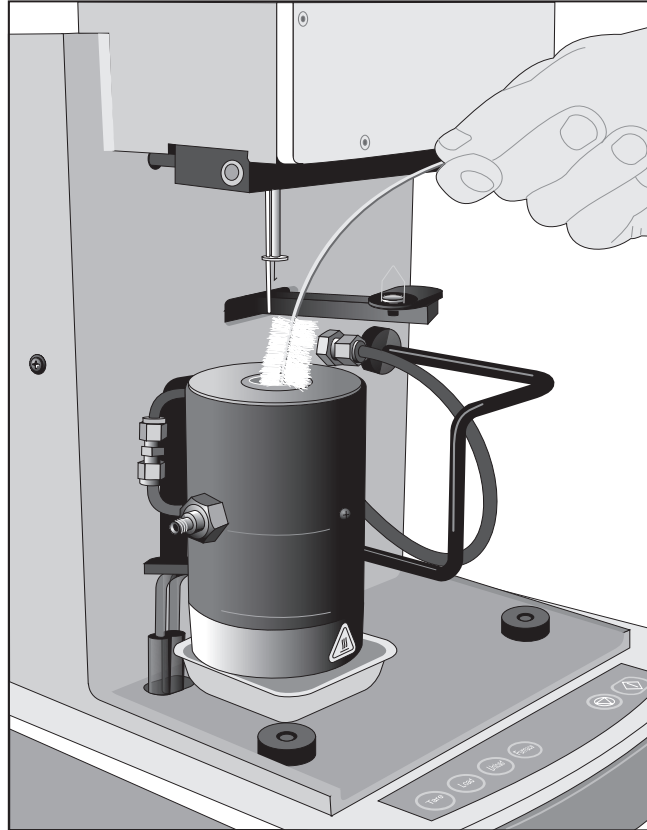

Figure 5.1
5. Using a soft bristle brush (we recommend a flexible bottle brush), gently slide the brush up and down to clean out the inside of the furnace tube, allowing the handle to bend freely (see Figure 5.1 on the next page).